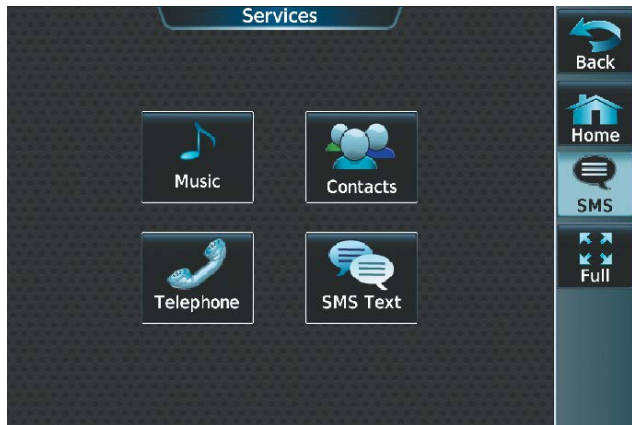

Figure 8-74 SMS Text Services Selection
- 1) From the MFD **Home** Screen, touch **Services** > **SMS Text** (Figure 8-74).